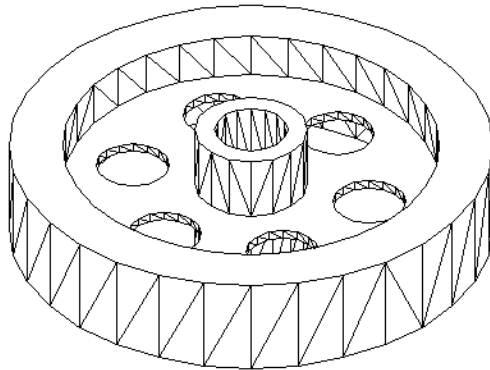

Figure 24-19: The final model after using the UNION command to create one object from three.
- 10.** Save your drawing. It should look like Figure 24-19. If you’re continuing on to the next exercise, leave it open.